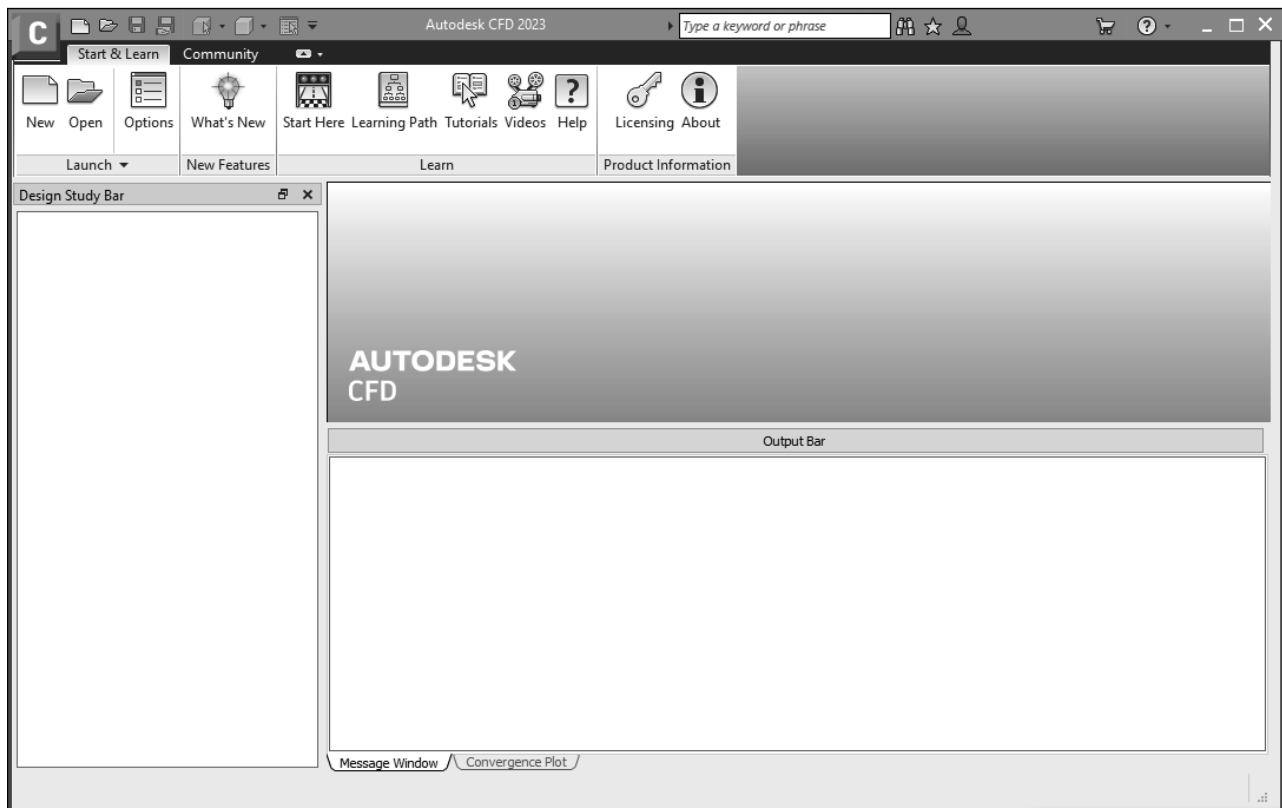
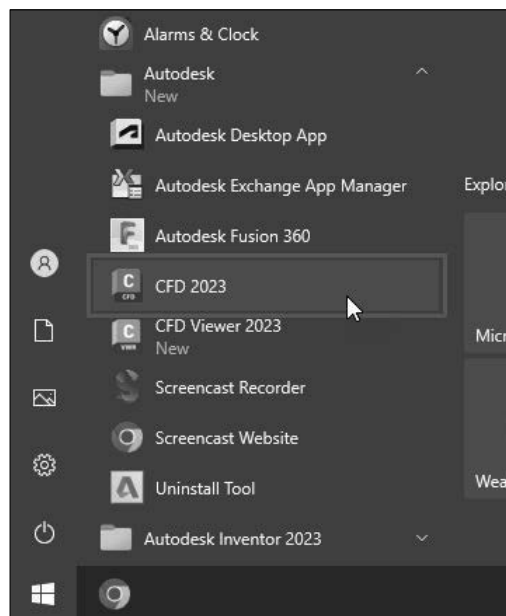

Figure-7. Autodesk CFD 2023 welcome screen
Figure-8. CFD 2023 icon from Start Menu
- Enter your Autodesk student ID and password in the dialog box. The interface of Autodesk CFD will be displayed; refer to Figure-7.
- To start **Autodesk CFD** from **Start** menu, click on the **Start** button in the **Taskbar** at the bottom left corner, click on **Autodesk** folder, and select the **CFD 2023** icon; refer to Figure-8. The Autodesk CFD software welcome window will be displayed; refer to Figure-7.